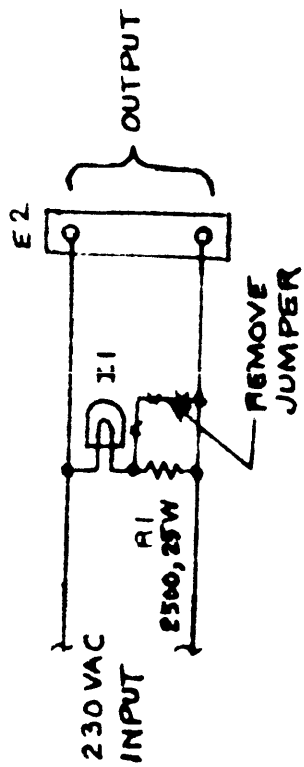

FIGURE 2-2. 230-V LINE VOLTAGE MODIFICATION DIAGRAM, DCP-1
e. DCP-1 - Remove jumper between I1 indicator light and E2 terminal block as shown in figure 2-2. No change is necessary to CBI circuit breaker.